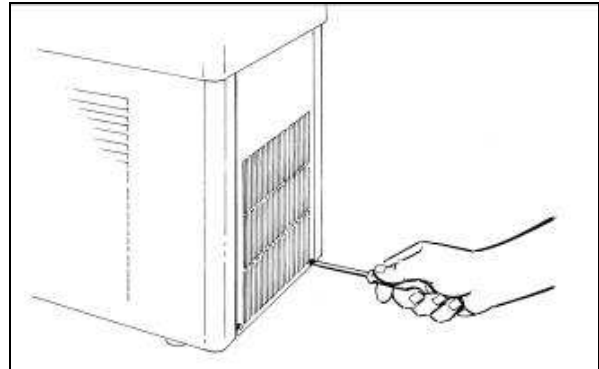

Fig. 28
-GT1 machine: remove the rear panel by unscrewing the two bolts fastening it (fig.28);